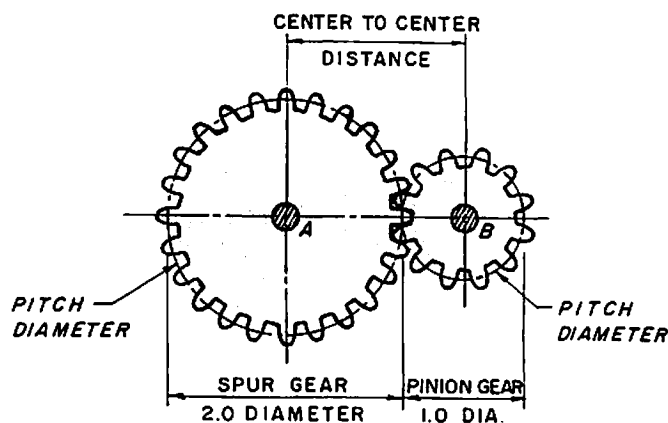

Figure 16-21 Center-to-center distances of two gears
The exact same formula applies to a gear and pinion, except that the pitch diameter (D) is used in place of the outside diameter (OD). Refer to Figure 16-21.